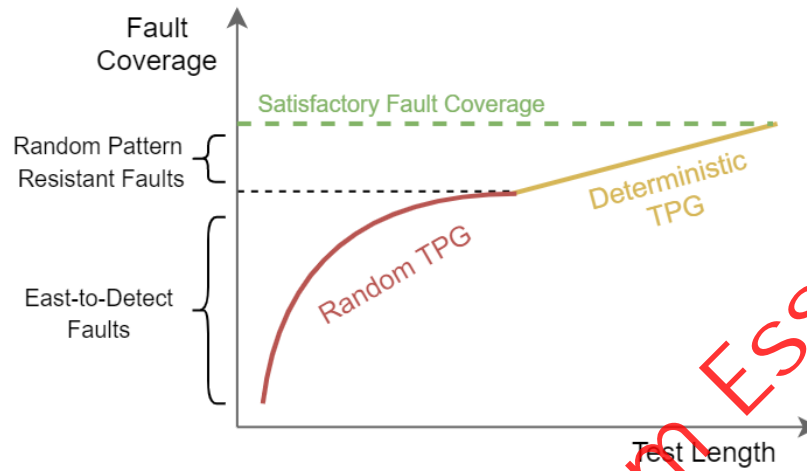

Figure 1: Fault coverage report by running RFG followed by ATPG
For most combinational circuits, a small set of randomly generated test vectors can detect a substantial percentage of single stuck-at faults. For most combinational circuits, this percentage lies in the 60-90% range [1]. A set of randomly generated tests of a given size typically provides lower fault coverage compared to a set with an equal number of deterministically generated test vectors. Therefore, the main advantage of RTG is to detect many *easy* faults by just running fault simulation, and avoiding the expensive deterministic ATPG algorithms (such as D-Algorithm and PODEM). However, the rapid increase of fault coverage by running RTG will eventually *saturate*. The test process should detect this saturation and then run deterministic approaches for the remaining faults. This concept is illustrated in Fig. 1.
- To draw a figure similar to Fig. 1, you need to report FC every n_{TFGR} test vectors. Just a note that you may have access to the current FC ratio at every step, however, as we will see in the next phase for detection of saturation, we may need a report for every n_{TFGR} pattern. Corner cases are $n_{TFGR} = 1$ or $n_{TFGR} = n_{tot}$. You can assume that n_{tot} is always a factor of n_{TFGR} .